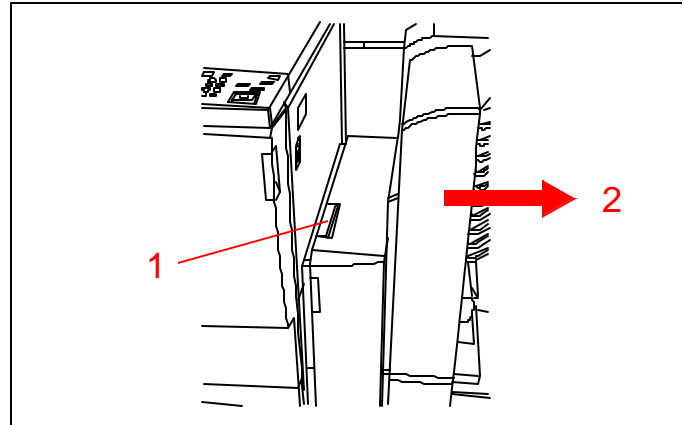

Figure 15
1. See Figure 15. Press the top of the sorter/mailbox release lever toward the sorter/mailbox.